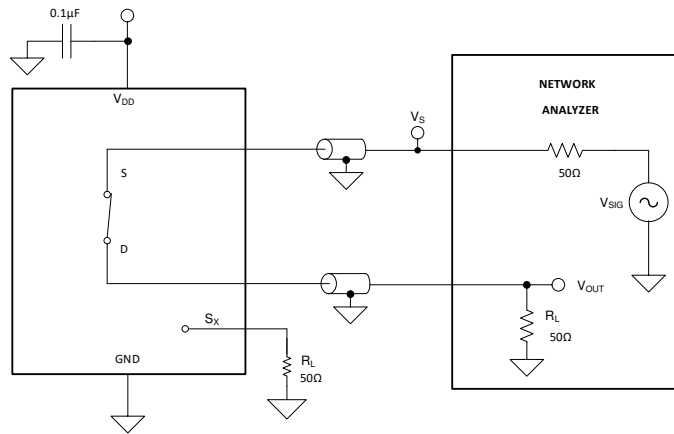

**Figure 7-8. Crosstalk Measurement Setup**
Crosstalk is defined as the ratio of the signal at the drain pin (D) of a different channel, when a signal is applied at the source pin (Sx) of an on-channel. Figure 7-8 shows the setup used to measure, and the equation used to calculate crosstalk.